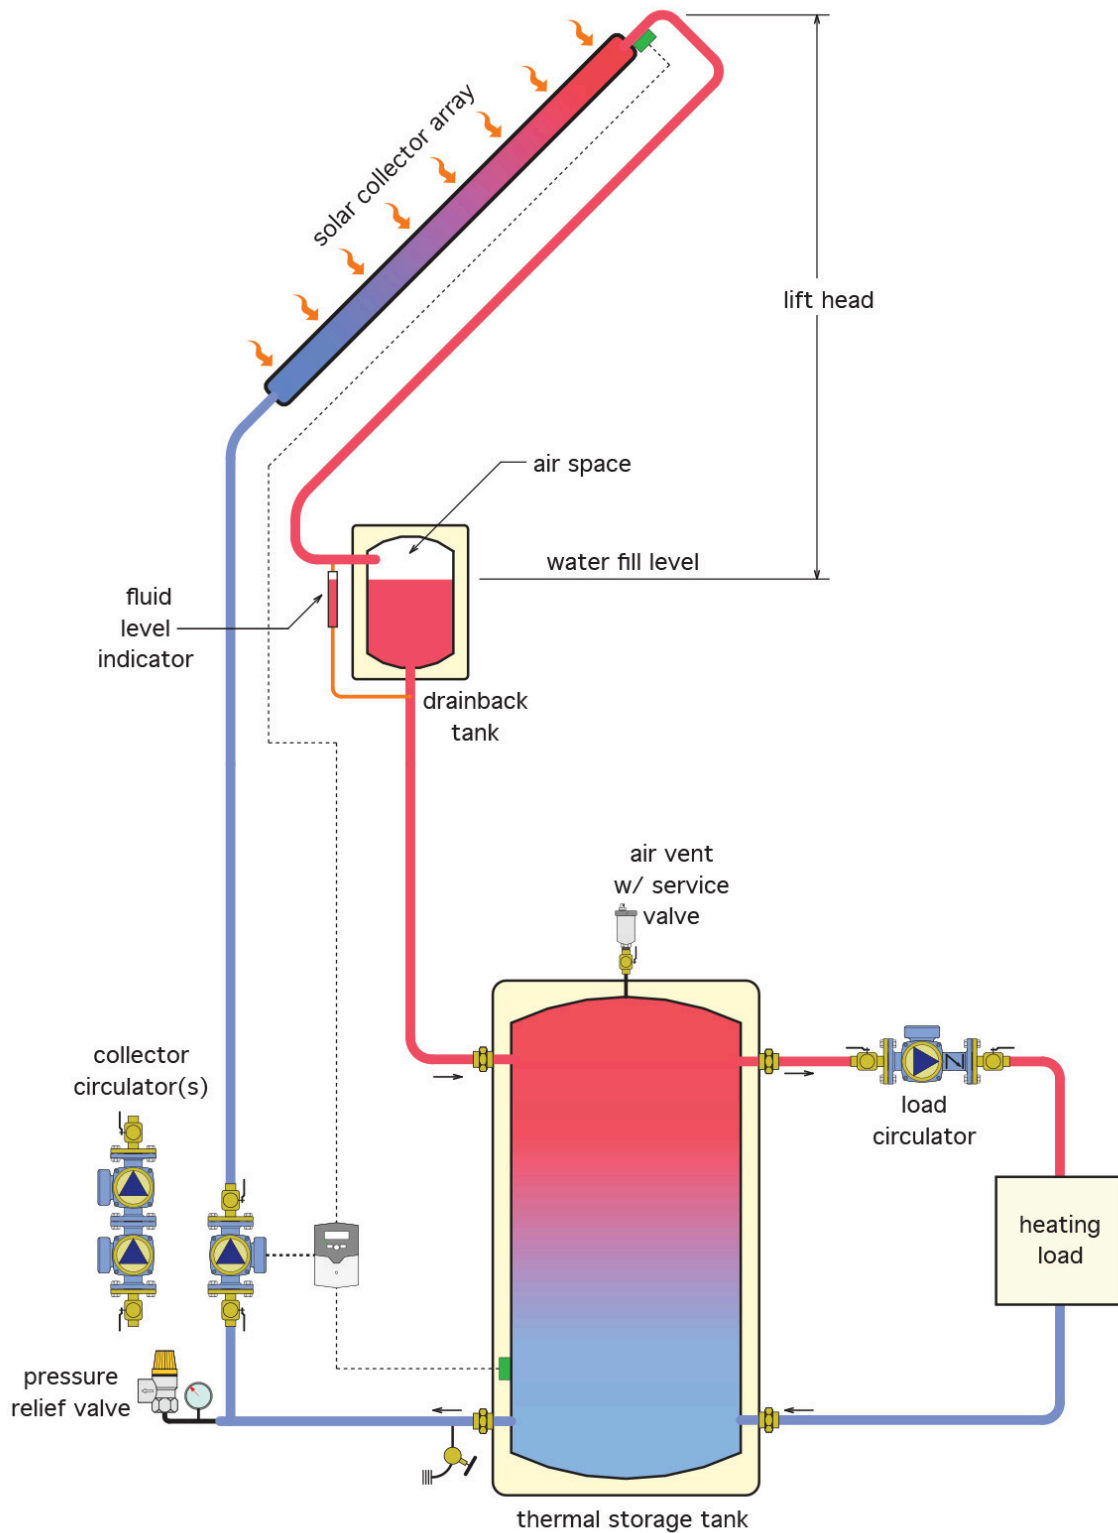

Figure 4 Closed-loop drainback system
- Figure 4 Evacuated tube collector in position © Caleffi Hydronic Solutions (<https://www.caleffi.com/usa/en-us>). Used with permission.